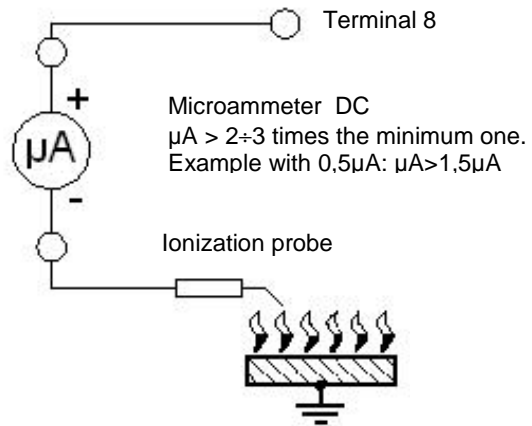

Fig. 5 – Flame signal measurement method in gas versions.
- the level of the flame signal is high enough (for flame signal test see figure 5 and 6)